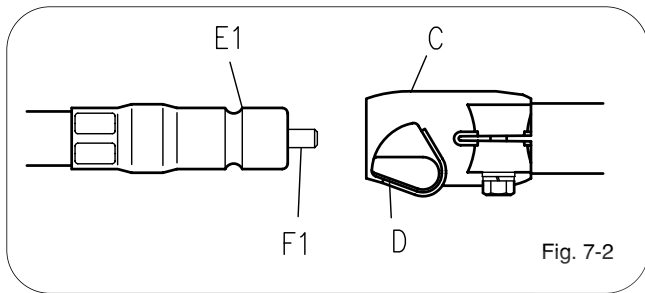

Fig. 7-2
2. In the case of a backpack type reaper, insert the flexible shaft ass'y metal fitting (E1) while pulling up the knob (D) of the flexible holder (C), then release your hand from the knob (D). Match the position of the flexible inner shaft end (F1) with the mating square hole, and push in the end from the E2 side. (Fig.7-2)